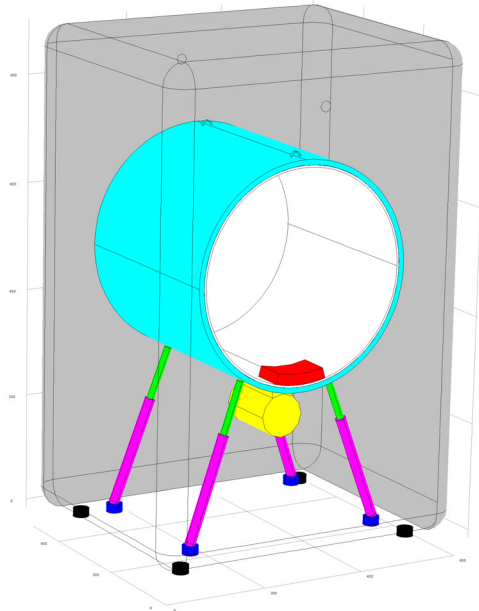

Figure 1: Model geometry (top, bottom, front, and left panels of the housing are hidden).
The geometry of the washing machine assembly is shown in Figure 1.
- Connection with the tub, at front and back surfaces, using stabilizing springs. These springs are not shown in the geometry (Figure 1) or in the model.